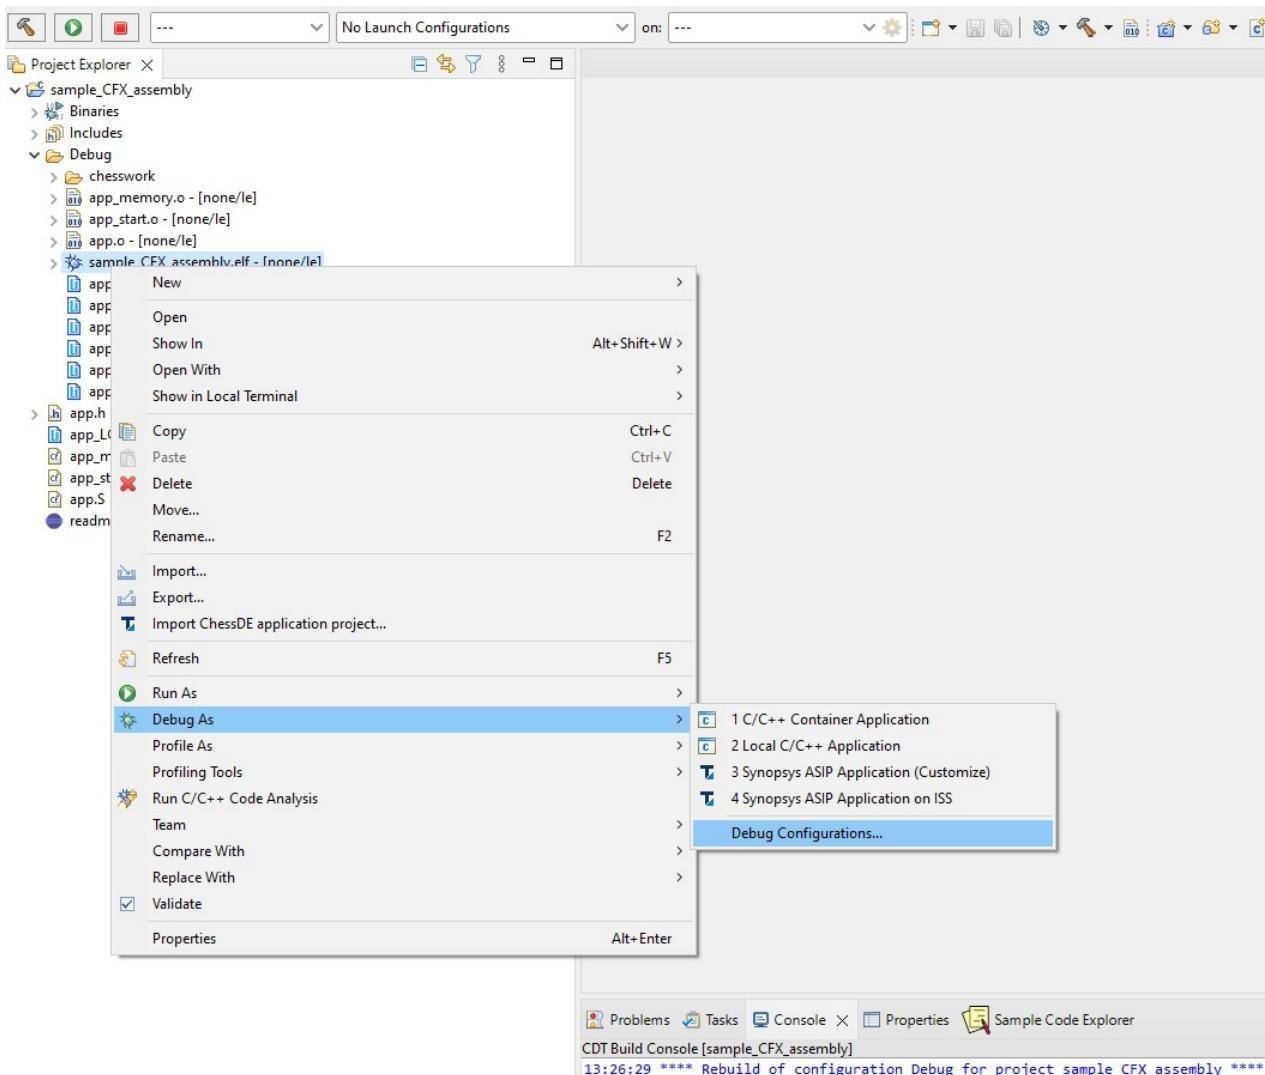
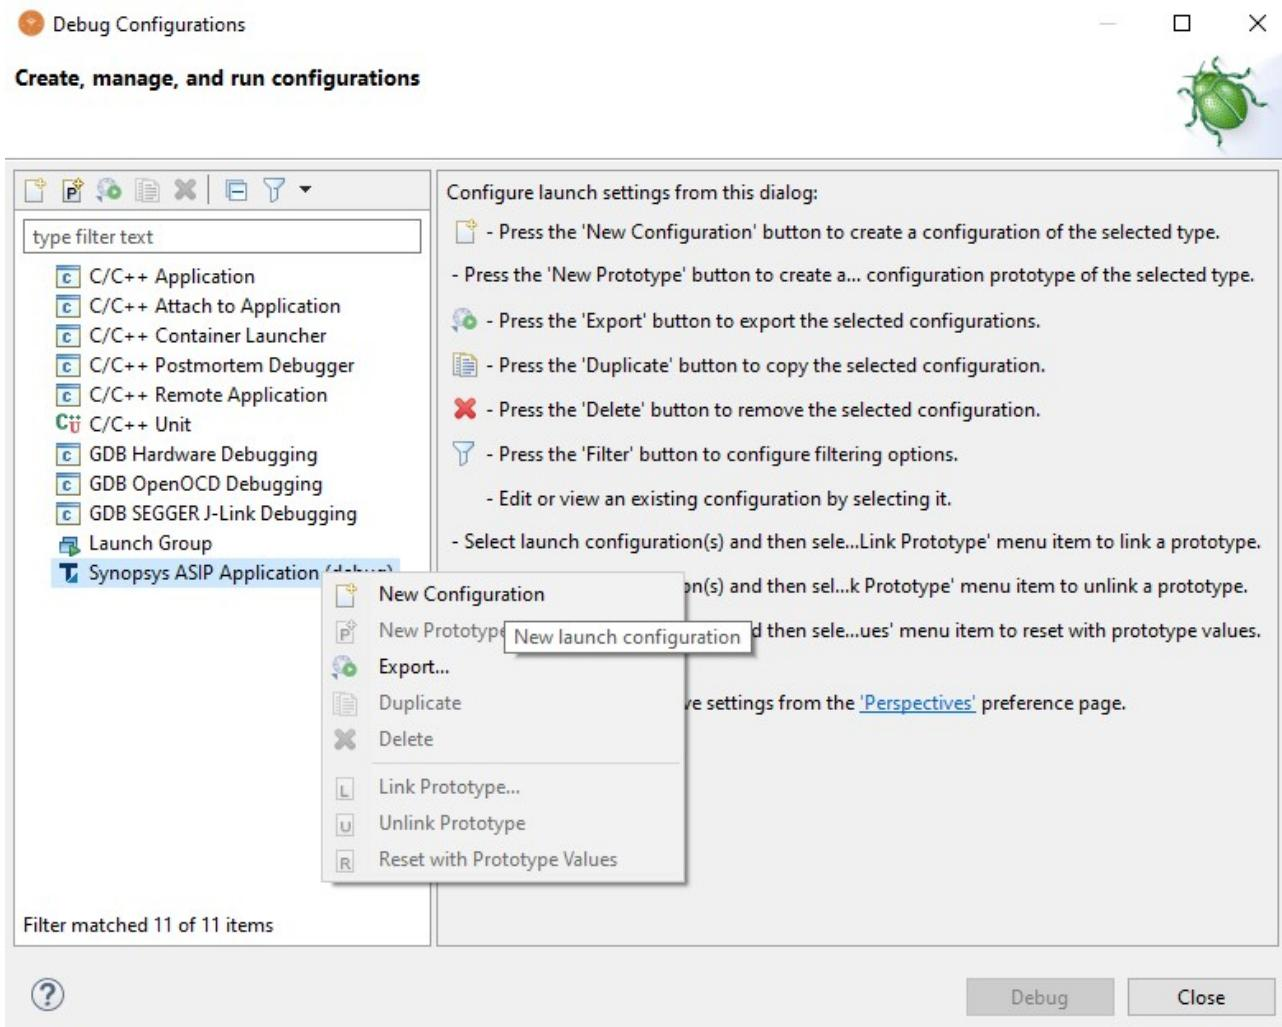
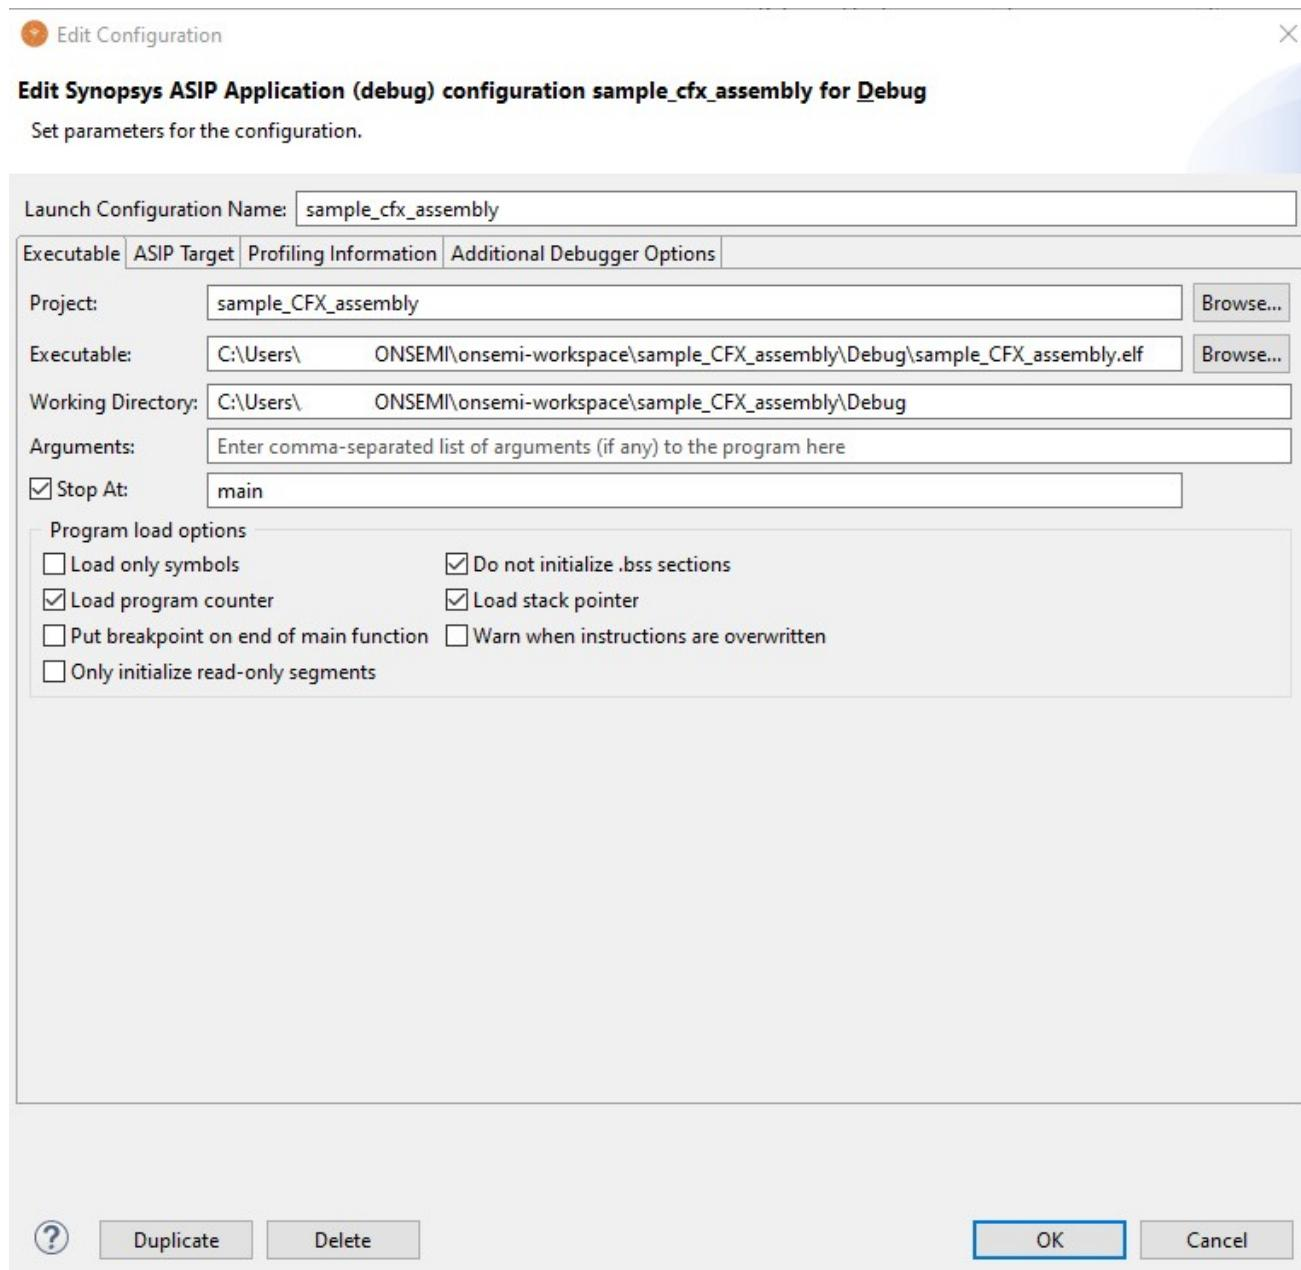

Figure 14. Creating CFX Assembler Debug Configuration, Step 1
Figure 15. Creating CFX Assembler Debug Configuration, Step 2
Figure 16. Selecting Project and Executable for Debug Configuration
1. Right click on the built `.elf` file (sample_CFX_assembly in this case) and select **Debug As > Debug Configurations** or select **Synopsys ASIP Application (Customize)** to directly create a new debug configuration with pre-filled values. (See the figure "Creating CFX Assembler Debug Configuration, Step 1" (Figure 14))
2. The **Debug Configurations** dialog is displayed. Right click on the **ASIP Designer Application** configuration type and select **New** (as shown in the figure "Creating CFX Assembler Debug Configuration, Step 2" (Figure 15)).
- a. In the **Executable** tab view, select your desired **Project** (in the figure "Creating CFX Assembler Debug Configuration, Step 1" (Figure 14), **sample_CFX_assembly**) and **Executable** (in the figure "Creating CFX Assembler Debug Configuration, Step 2" (Figure 15), **C:\eclipse-workspace\sample_CFX_assembly\Debug**). See the figure "Selecting Project and Executable for Debug Configuration" (Figure 16).